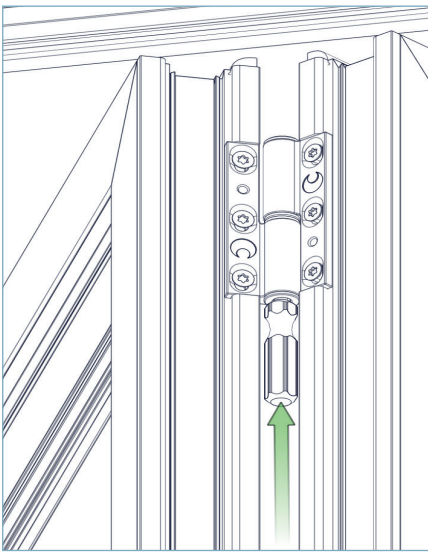

FIG 7D
- ▶ **7.5.** Hang the third door onto the centre hinge and insert a screwdriver through the top hinge; this will support the door whilst the forks are located as seen in FIG 7D.